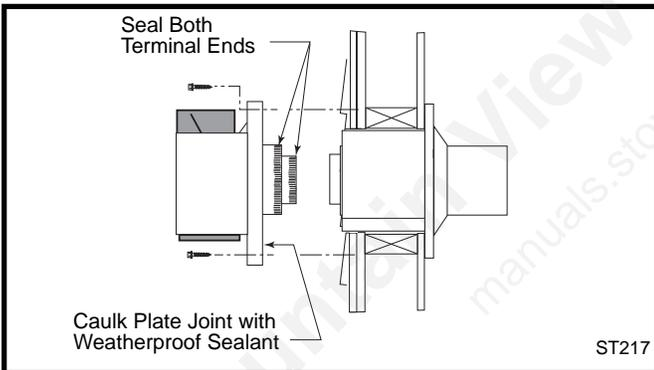

Fig. 36 Install the vent terminal.
10. Install the vent terminal. (Fig. 36) Guide the inner and outer vent termination collars into the adjacent pipes. Double check that the vent pipes overlap the collars by 2". Fasten the termination to the wall with the screws provided, and caulk the joint with weatherproof sealant.